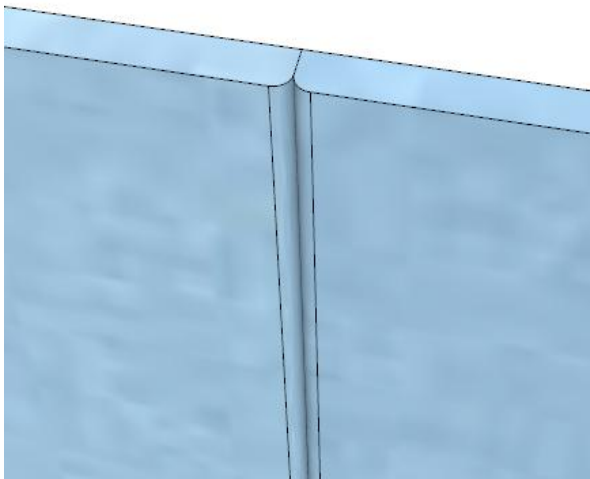

Figure 1
4. At a joint, chamfer the joining face to R3 (Figure 1). Adjust the R radius with a hand edge trimmer according to the actual panel thickness.